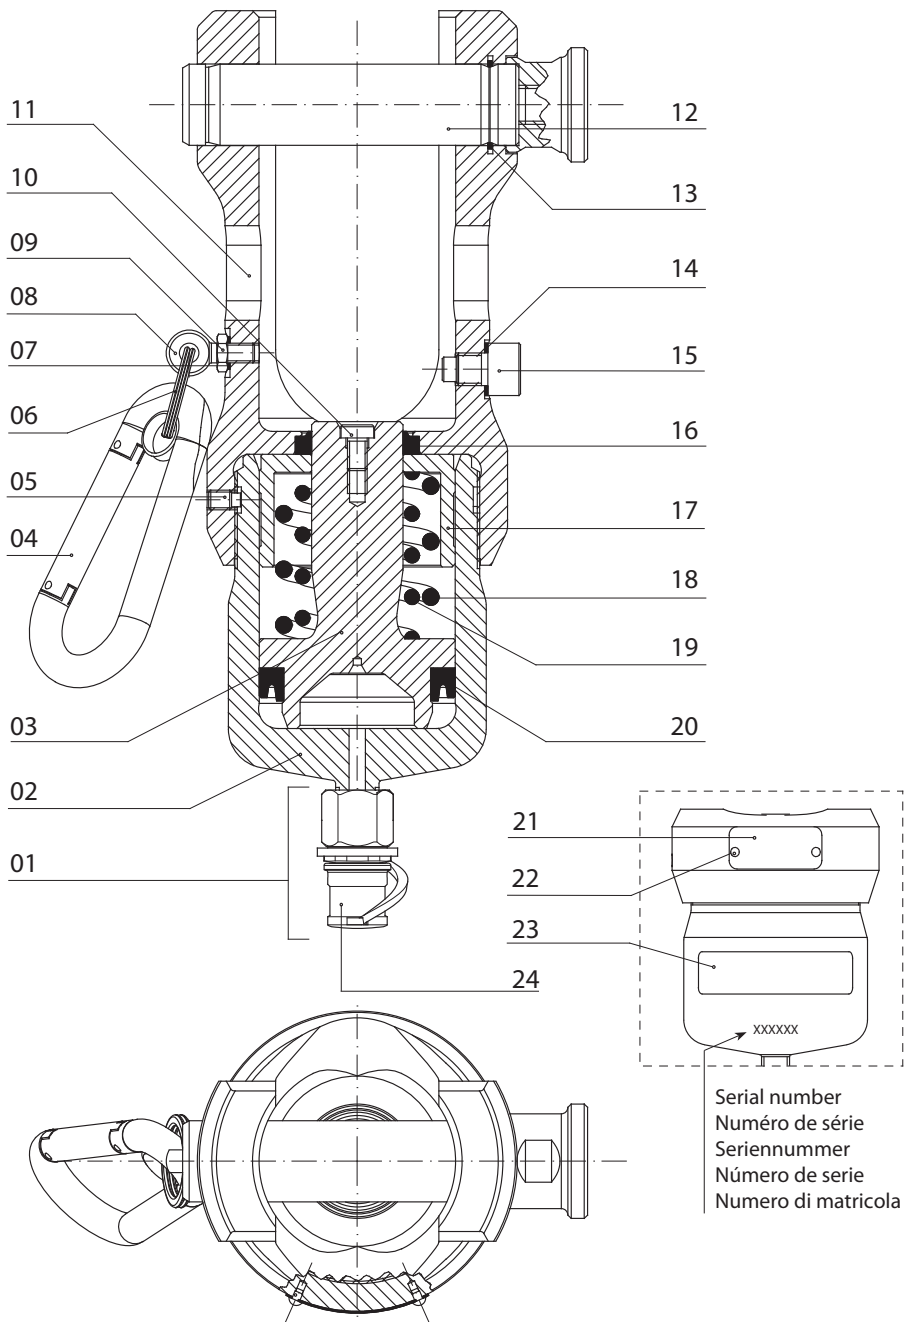

FIG. 3
4. LISTA DEI COMPONENTI (Rif. a Fig. 3)